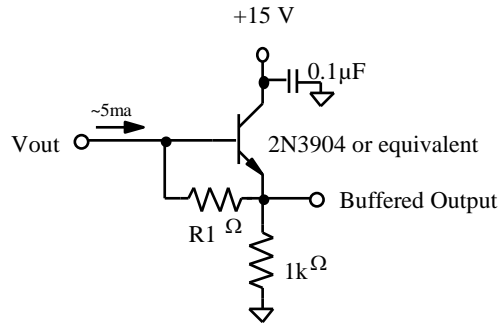

Figure 2: Output Structure Load Diagram
Charge presented to the floating diffusion (FD) is converted into a voltage and current amplified in order to drive off-chip loads. The resulting voltage change seen at the output is linearly related to the amount of charge placed on FD. Once the signal has been sampled by the system electronics, the reset gate (ϕ_R) is clocked to remove the signal and FD is reset to the potential applied by V_{rd} . More signal at the floating diffusion reduces the voltage seen at the output pin. In order to activate the output structure, an off-chip load must be added to the V_{out} pin of the device – see Figure 2.